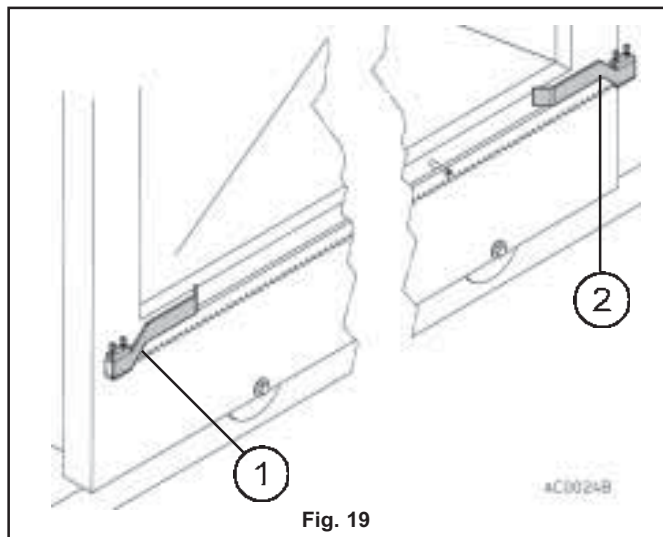

Fig. 19
- c) The rack must protrude from the pinion axis by a sufficient space for the installation of the "gate open" limit switch bracket (1 fig. 19).
- f) Assemble the various rack pieces and observe the 1mm gap on the pinion. Once the last rack piece has been assembled and the whole thing has been fastened, use a hacksaw to cut off the protruding part of the rack, leaving adequate space to mount the "gate closed" limit switch bracket (2 fig. 19).
- k) Mount the "gate open" (1 fig. 19) and "gate closed" (2 fig. 19) limit switch brackets at the end of the rack, fastening them in place using the screws supplied in the pack. Make allowance for the fact that gate will travel 2- 3 cm after the intervention of the limit switch, then adjust the position of the brackets so that the gate will not collide with the mechanical stop plates.